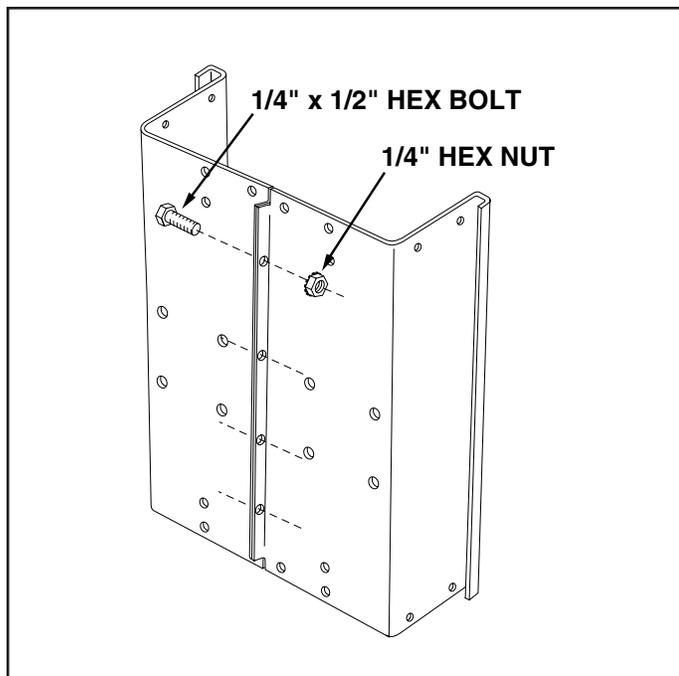

FIGURE 1
3. Position cart body halves upright on a smooth level surface such as a garage floor or a paved driveway. See figure 1.
4. Assemble halves together using four 1/4" x 1/2" hex bolts and 1/4" hex nuts as shown in figure 1. **Do not tighten at this time.**